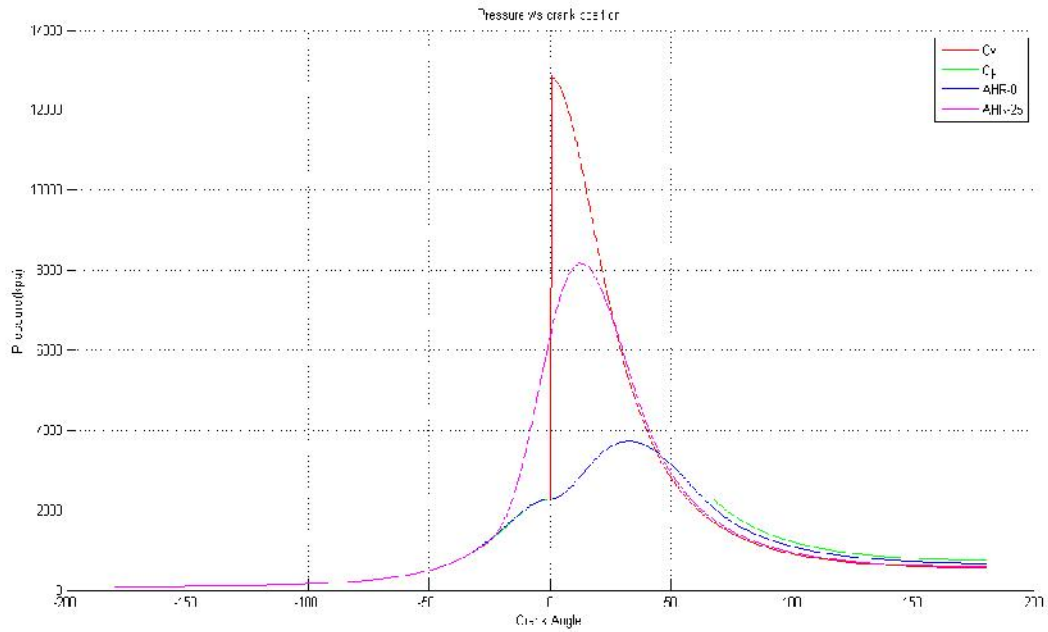

Figure 1 Graph indicating variation in Pressure with respect to change in Crank Angle for four different cycles for Compression and Expansion strokes
- From Fig.1 it can be concluded that maximum pressure developed within a cylinder is greater in the case of Constant Volume cycle